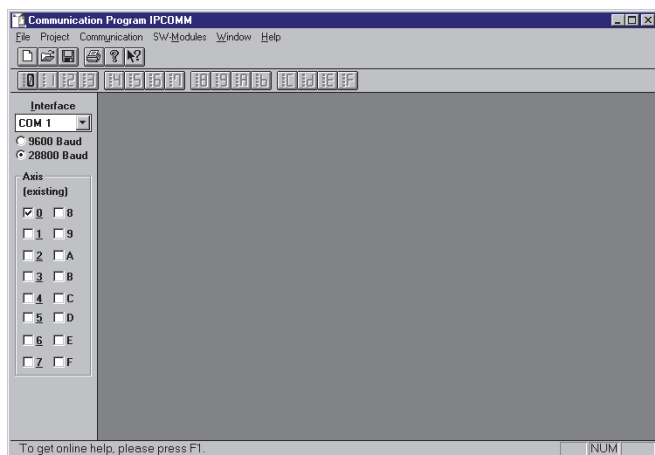

Fig. 9 Login window
- In login window (Fig. 9) set the interface and baud-rate (COM1, 28800 Baud)